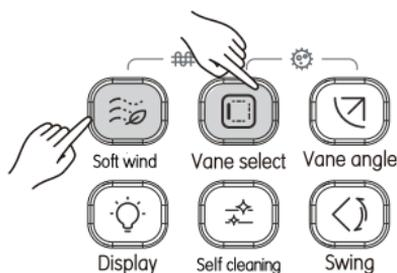

Figure 3.20
- 1) Press  and  at the same time to start auxiliary heater (see Figure 3.20), and the screen will display the icon  ON ;